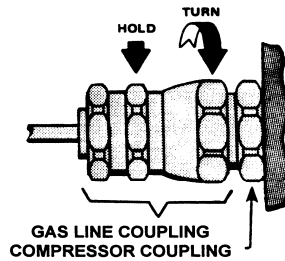

Figure 6 Connect Gas Line to Compressor or Manifold
5. Connect the supply (red) gas line to the gas supply coupling on the compressor. Use two wrenches to tighten the coupling. See Figure 6.